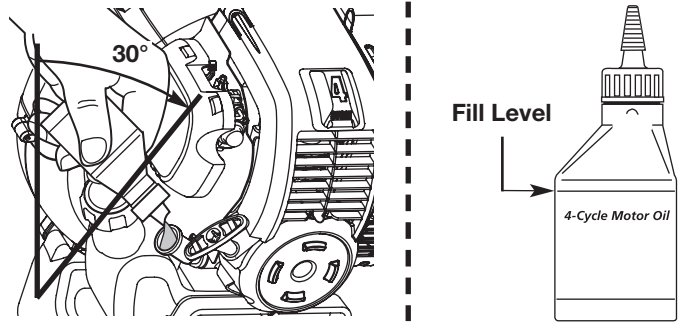

Fig. 22
4. Tilt the unit backwards 30° (Fig. 22).
- a Use the bottle and spout saved from initial use to measure the correct amount of oil. The top of the label on the bottle measures approximately 3.04 ounces (90 ml) (Fig. 22). Check the level, See *Checking the Oil Level*. If the level is low, add a small amount of oil and recheck. Do not overfill (Fig. 22).